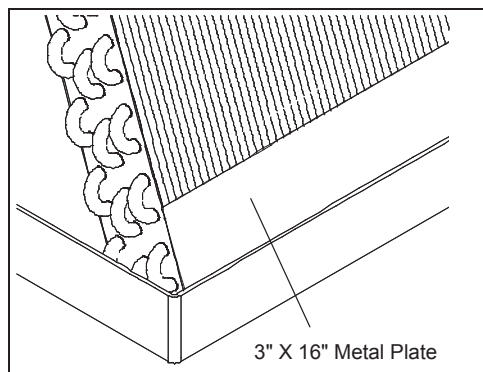

Fig.8. Position of plates required in counter flow
- Place the 3" x 16" counter flow plates at the outside bottom of the coil as shown in FIG. 8.